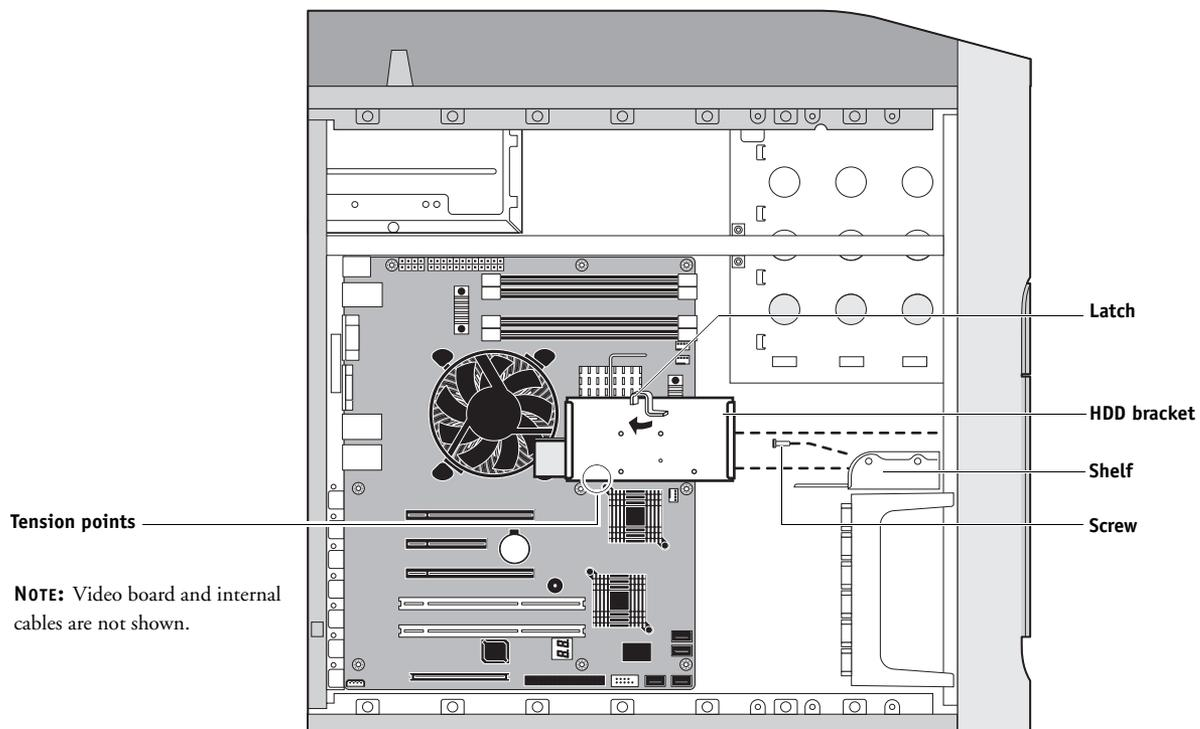

FIGURE 32: Removing/replacing the HDD bracket
6. Slide the HDD bracket off the shelf and lift it out of the chassis (see Figure 32).
2. Position the HDD inside the HDD bracket and align the front-most mounting holes on the HDD with the four holes in the bracket (see Figure 32 on page 93).